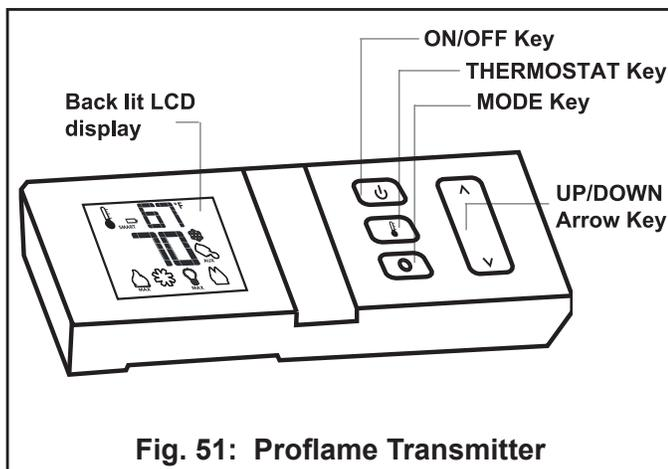
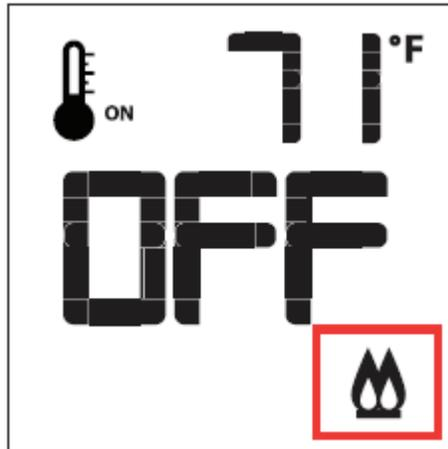
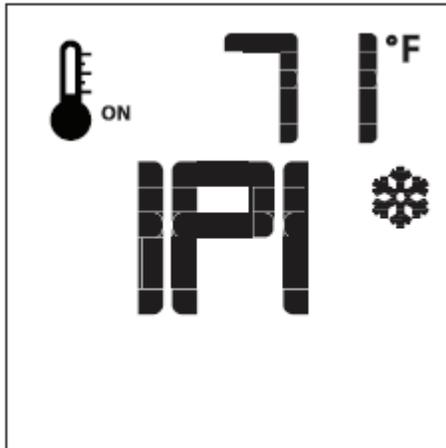
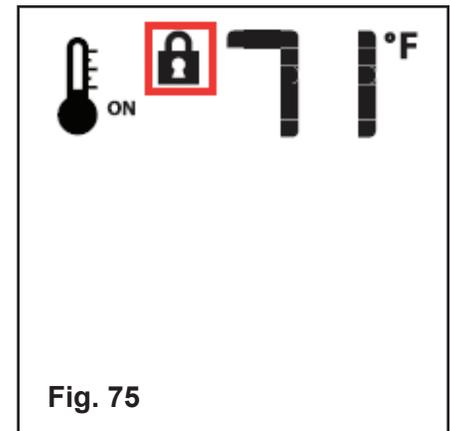

Fig. 51: Proflame Transmitter
Fig. 69
Fig. 73
Fig. 75
The Proflame Transmitter uses a streamline design with a simple button layout and informative LCD display (**Fig. 51**). A Mode Key is provided to index between the features and a Thermostat Key is used to turn on/off or index through Thermostat functions (**Fig. 51 & 52**). Additionally, a Key Lock feature is provided (**Fig. 75**).
The Remote Control can operate as a room thermostat. The thermostat can be set to a desired temperature to control the comfort level in a room. To activate this function, press the Thermostat Key (**Fig. 51**). The LCD display on the Transmitter will change to show that the room thermostat is “ON” and the set temperature is now displayed (**Fig. 61**). To adjust the set temperature, press the Up or Down Arrow Keys until the desired set temperature is displayed on the LCD screen of the Transmitter.
The Smart Thermostat function adjusts the flame height in accordance to the difference between the set point temperature and the actual room temperatures. As the room temperature gets closer to the set point the Smart Function will modulate the flame down. To activate this function, press the Thermostat Key (**Fig. 51**) until the word “SMART” appears to the right of the temperature bulb graphic (**Fig. 63**). To adjust the set temperature, press the Up or Down Arrow Keys until the desired set temperature is displayed on the LCD screen of the Transmitter (**Fig. 64**).
The speed of the blower can be controlled by the Proflame system. The blower speed can be adjusted through six (6) speeds. To activate this function use the Mode Key (Fig. 51) to index to the blower control icon (Fig. 65). Use the Up/Down Arrow Keys (Fig. 51) to turn on, off or adjust the blower speed (Fig. 66). A single “beep” will confirm reception of the command.
The auxiliary function controls the AUX power outlet by the dimmable light control. To activate this function use the Mode Key (Fig. 51) to index to the AUX icon (Fig. 67 & 68). The intensity of the output can be adjusted through six (6) levels. Use the Up/Down Arrow Keys (Fig. 51) to adjust the output level (Fig. 68). A single “beep” will confirm reception of the command.
The secondary burner is controlled by the Split Flow. To activate this function use the Mode Key (Fig. 51) to index to the SPLIT FLOW mode icon (Fig. 69 & 70). Pressing the Up Arrow Key will activate the secondary burner. Pressing the Down Arrow Key will turn the secondary burner off. A single “beep” will confirm the reception of the command.
The auxiliary function controls the AUX relay outlet. To activate this function use the Mode Key (Fig. 51) to index to the AUX icon (Fig. 71 & 72). Pressing the Up Arrow Key will activate the outlet. Pressing the Down Arrow Key will turn the outlet off. A single “beep” will confirm the reception of the command.
With the system in “OFF” position press the Mode Key (Fig. 51) to index to the CPI mode icon (Fig. 73 & 74). When enabled it will act as a standing pilot unit with an automatic shutoff timer that will turn the pilot off after 7 days. Pressing the Up Arrow Key will activate the Continuous Pilot Ignition mode (CPI). Pressing the Down Arrow Key will return to IPI. A single “beep” will confirm the reception of the command.
To activate this function, press the MODE and UP Keys at the same time (Fig. 75). To de-activate this function, press the MODE and UP Keys at the same time.